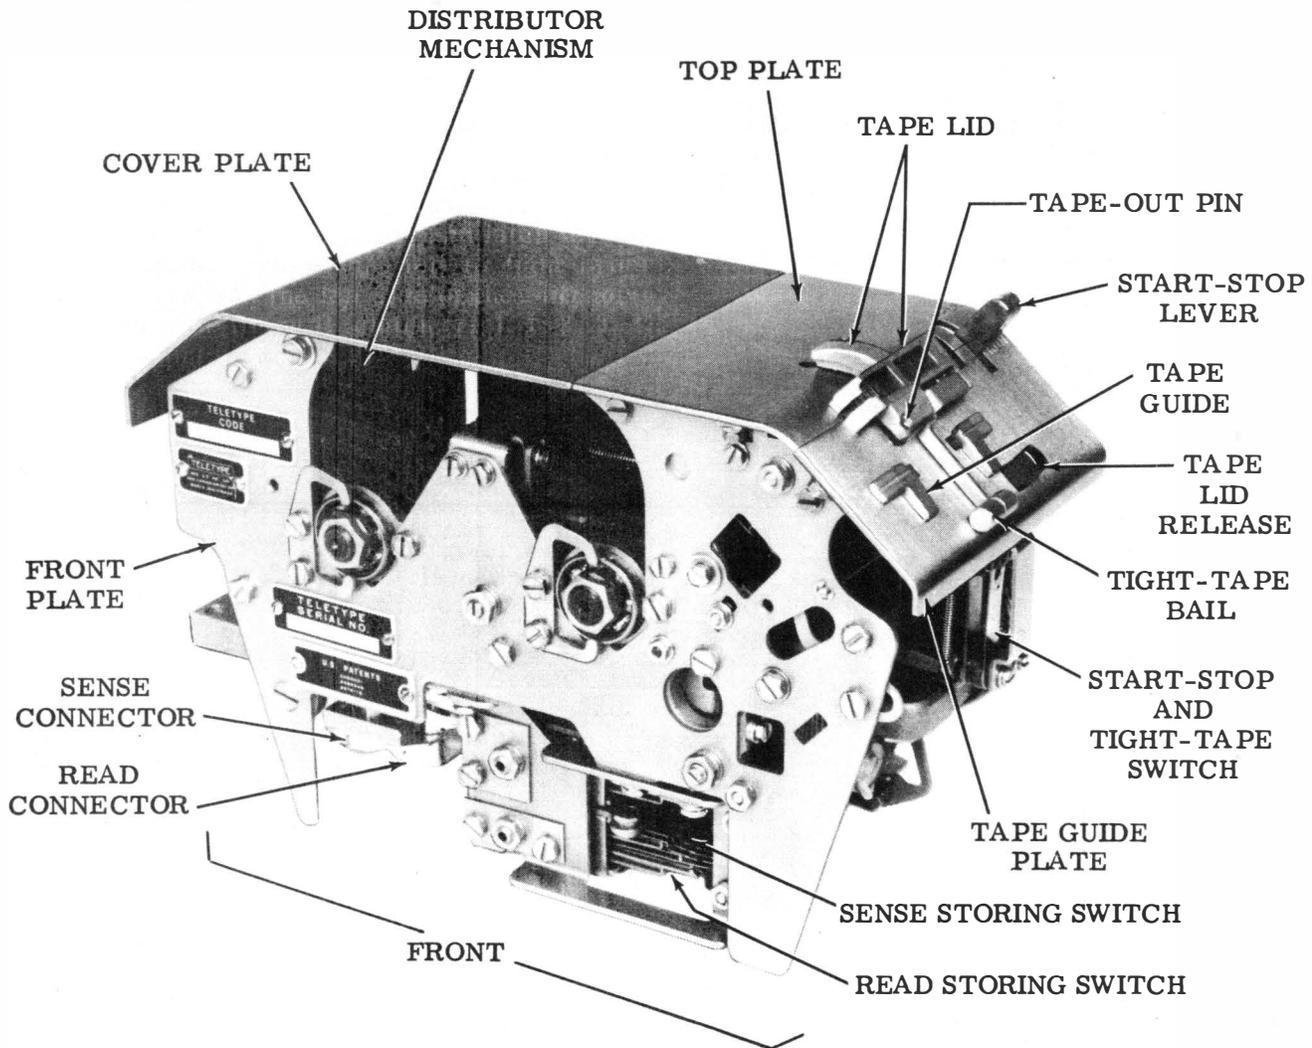

Figure 1 - Typical 35 Transmitter-Distributor Unit
1.03 All references to left or right, front or rear, up or down are made from a position in front of the unit. See Figure 1.
2.01 The transmitter-distributor (Figures 1 through 4) has the combined capability of a tape reader and a multiwire distributor. The tape reader (or transmitter) senses the punched code combinations and transfers the data electrically to the distributor. The distributor converts these parallel signals into sequential, start-stop signals for distribution on line.
2.02 Some units are equipped with code reading contacts (read storing switch - Figure 1) to provide parallel outputs.
2.04 The following mechanisms are mounted on a main casting and mounting plates (Figures 1 through 4):
- (d) A sense storing switch for storage of the last character sensed. The switch applies a parallel output to the distributor (Figures 1 and 4).
- (e) A read storing switch (on some units) for parallel outputs (Figures 1 and 4).
- (f) A tape feed mechanism (Figure 1).
- (g) A tape lid mechanism (Figure 1).
- (h) A three-position start-stop lever for manual control of the unit. The lever positions are RUN, STOP, and FREE (Figure 1).
- (j) An adjustable tape guide (Figure 1).
- (k) A top plate and cover (Figure 1).